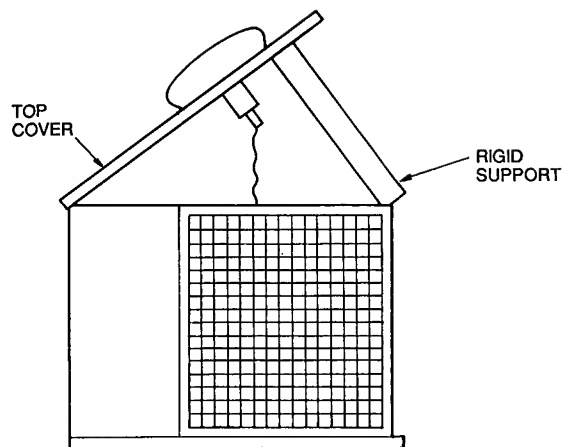

Fig. 10 — Pivot and Support Top Cover
2. Remove screws holding rear corner posts and top cover in place. Pivot top cover up 12 to 18 in. (305 to 457 mm) and support with a rigid support. See Fig. 10.